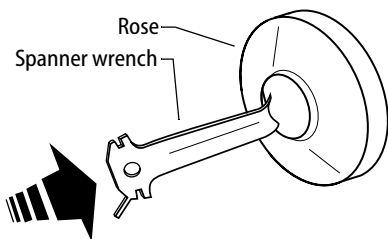

Figure 2 — Prying the rose from the liner
- 3 Using a spanner wrench, pry the rose from the liner as shown in Figure 2.